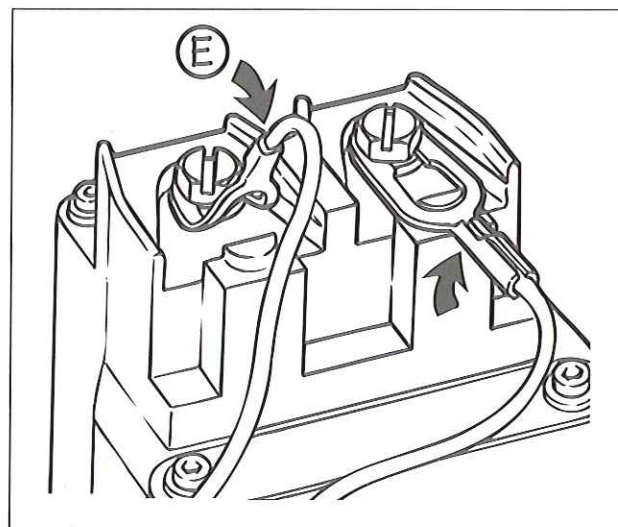

FIG. 8
6. Check electrical terminals at the injectors to make sure the terminals are bent up 90° to provide clearance for the engine brake housings (see Fig. 8).